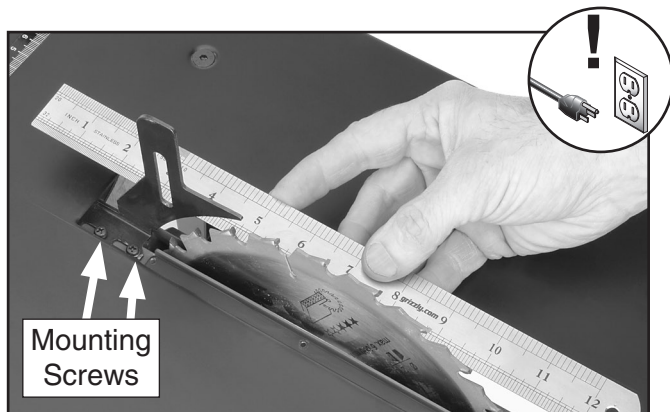

Figure 24. Aligning the riving knife to the blade with a straightedge.
4. Place the straightedge firmly against the blade, making sure that it does not touch the carbide teeth (**Figure 24**).